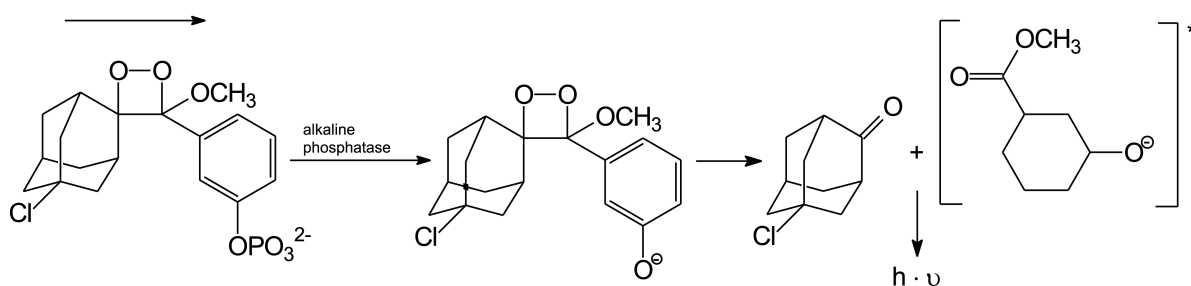

Fig. 3: Reaction of CSPD.
- ① DIG-labeled DNA probes are generated with DIG-High Prime according to the random primed labeling technique.
- ② DIG-labeled probes are used for hybridization to membrane-blotted nucleic acids according to standard methods.
- ③ The hybridized probes are immunodetected with Anti-Digoxigenin-AP, Fab fragments and are then visualized with the chemiluminescent substrate CSPD, ready to use.
- Enzymatic dephosphorylation of CSPD by alkaline phosphatase leads to a light emission at a maximum wavelength of 477 nm (Fig. 3) which is recorded with an appropriate imager or on X-ray film or Lumi-Film*. Film exposure times are in the range of only 5 to 30 minutes.